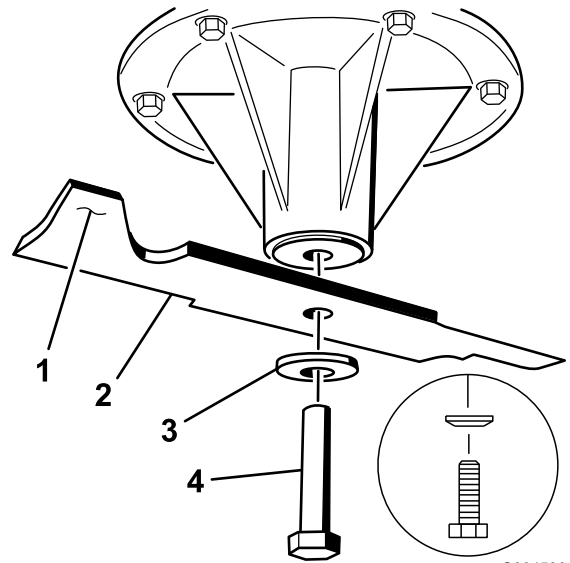

Figure 78
2. Install the blade onto the spindle shaft (Figure 78).
3. Install the curved washer and blade bolt (Figure 78).
Note: The curved washer cone must be installed toward the bolt head (Figure 78).